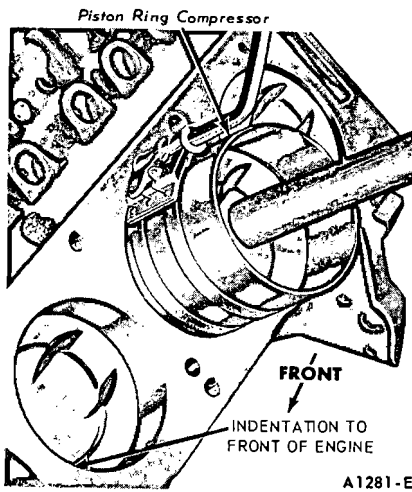

FIG. 59—Typical Piston Installation
4. Install a piston ring compressor on the piston and push the piston in with a hammer handle until it is slightly below the top of the cylinder (Fig. 59). Be sure to guide the connecting rods to avoid damaging the crankshaft journals. **Install the piston with the indentation in the piston head toward the front of the engine.**